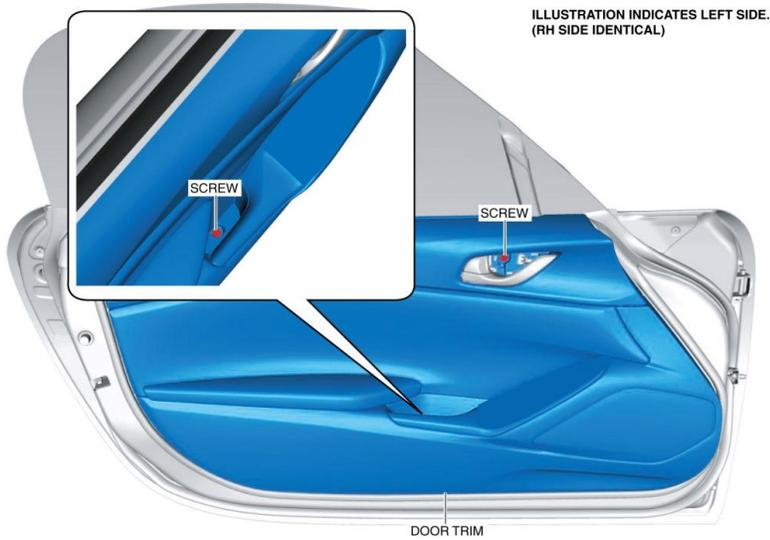

Figure 2
- 5. Remove the screw shown in *Figure 2*.